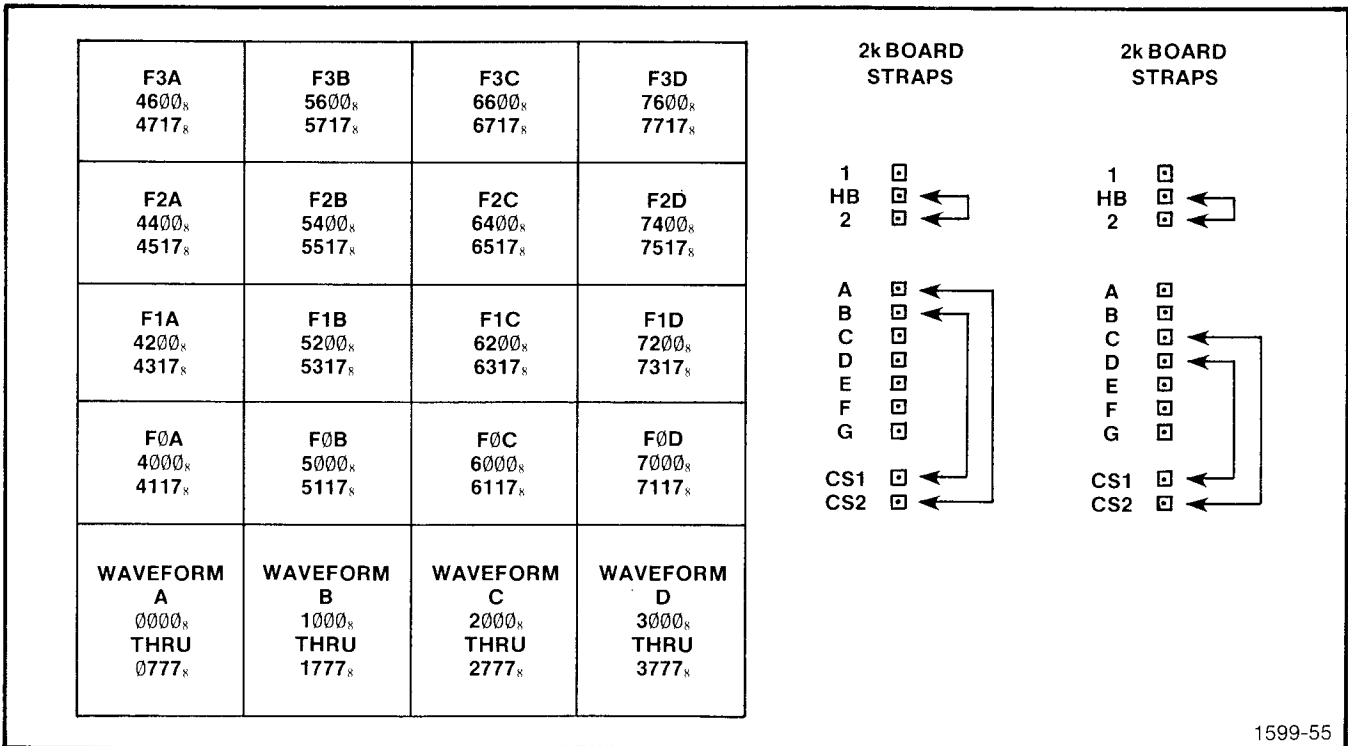

Fig. 3-11. 4 k Semiconductor Memory.
**4 k Semiconductor Memory.** The 4 k Semiconductor Memory consists of two 2 k Semiconductor Memory cards. It can store four waveforms, scale factor information for each waveform, and twelve, 80-character messages. See Fig. 3-11 for strap location and address allocation.